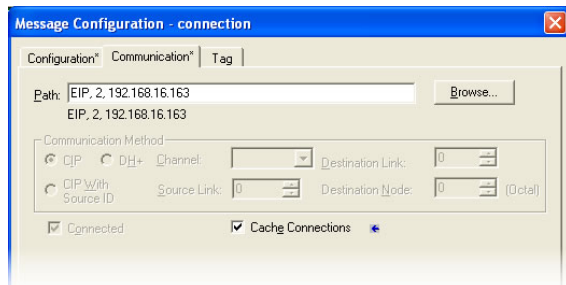

Figure 60: Setting the Communication Path
- d) "Communication" tab settings (refer to Figure 60):